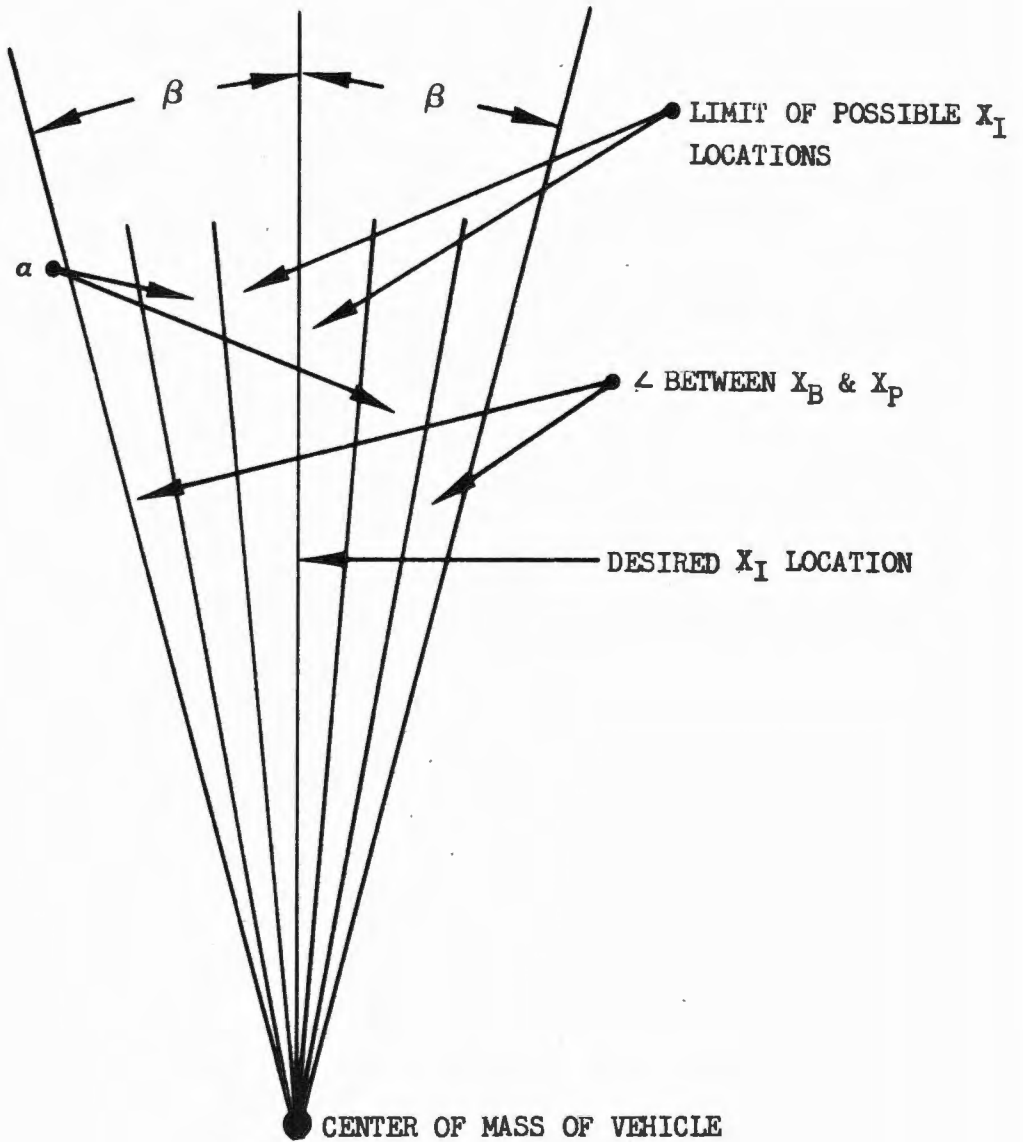

Figure 5-10. X-Y Plane Illustration of Reduction in Angular Momentum Vector Uncertainty
The maximum value for β in this special case can be found using equation (7) (see Figure 5-10).